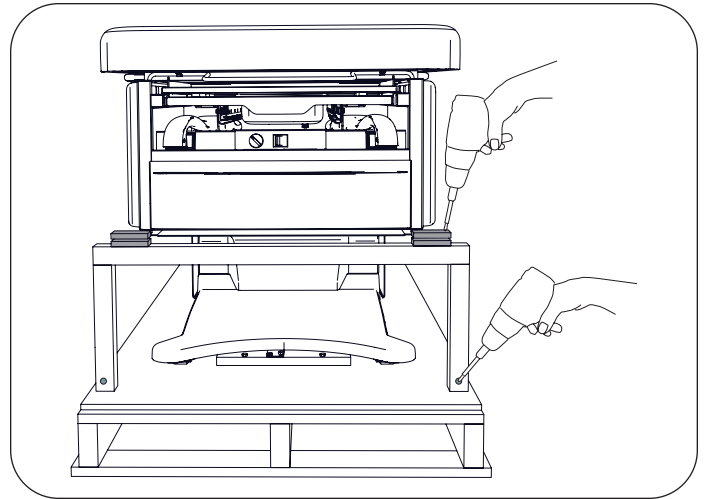

Figure 6. Remove Spacer and U-Brace Screws
6. Remove the 2 screws attaching the spacers on either side of the wooden U-shaped brace located under the front corners of the cabinet (Figure 6). Remove the 2 screws attaching the U-shaped brace to the pallet (Figure 6).